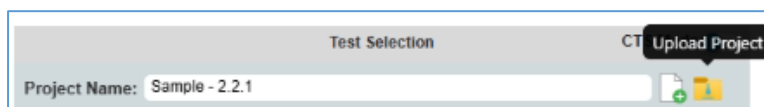

FIGURE 8.37: UPLOAD PROJECT— #1
1. Click on the **Upload Project** icon as indicated in Figure 8.37 below.